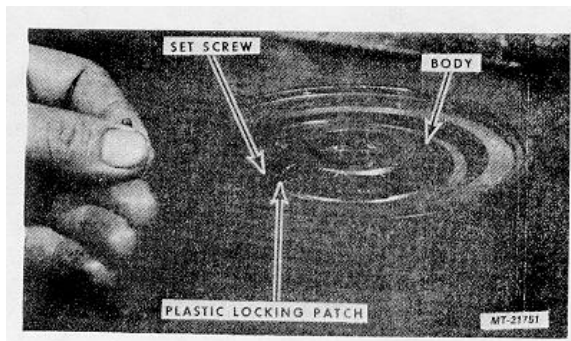

Fig. 59
22. Apply Loctite #242 to the threads of Set screw and install in the body until the plastic locking patch on the set screw begins to enter the thread, Fig. 59.